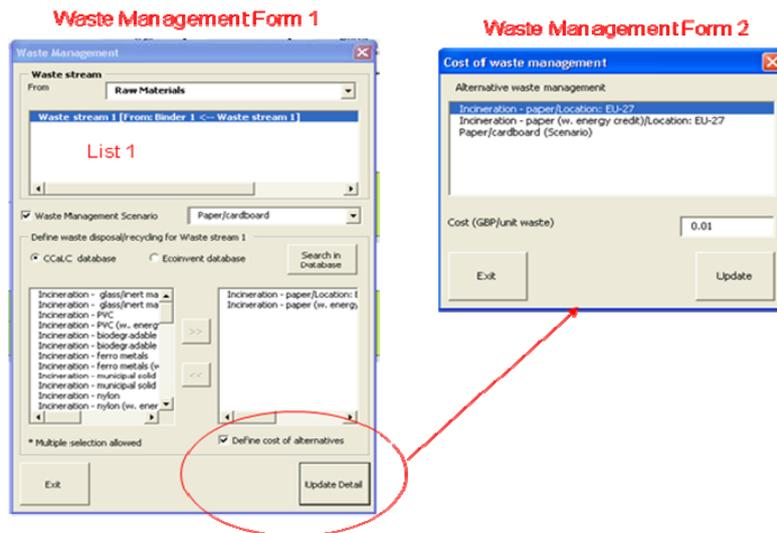

Figure 21 Forms for waste management information
- Click the box *'Waste Management'* on the top level of the tool to bring up the *Waste Management Form 1* (Figure 21);